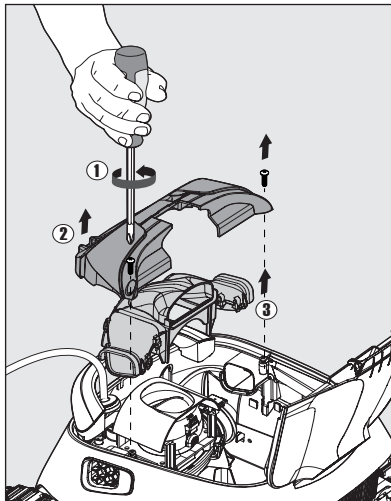

Figure 22
1. Using a No. 2 Phillips-head screwdriver, remove the two screws that hold the intermediate cover and manifold assembly in place. These screws can be found in the inside corners of the intermediate cover. See **Figure 22**.
3. Gently pull the intermediate cover (Item #2 in **Figure 22**) away from the cleaner and place it to the side.
4. Gently pull the manifold assembly (Item #3 in **Figure 22**) away from the cleaner and place it to the side.